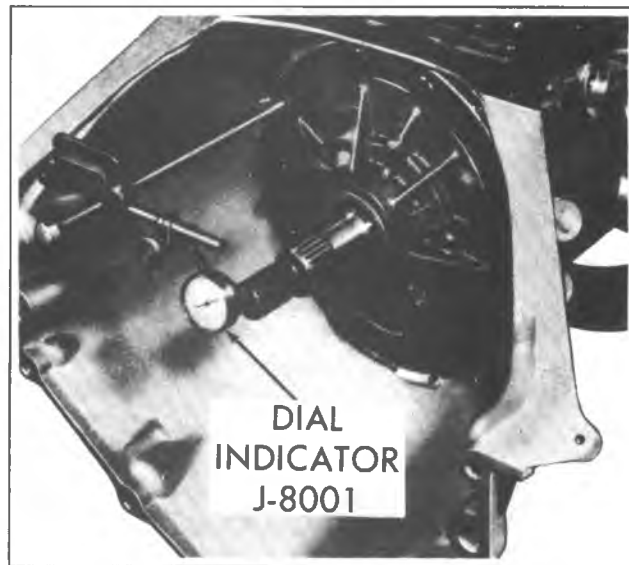

Fig. 7A-169C--Checking Front Unit End Play
23. Check front unit end play as follows (Fig. 7A-169C).